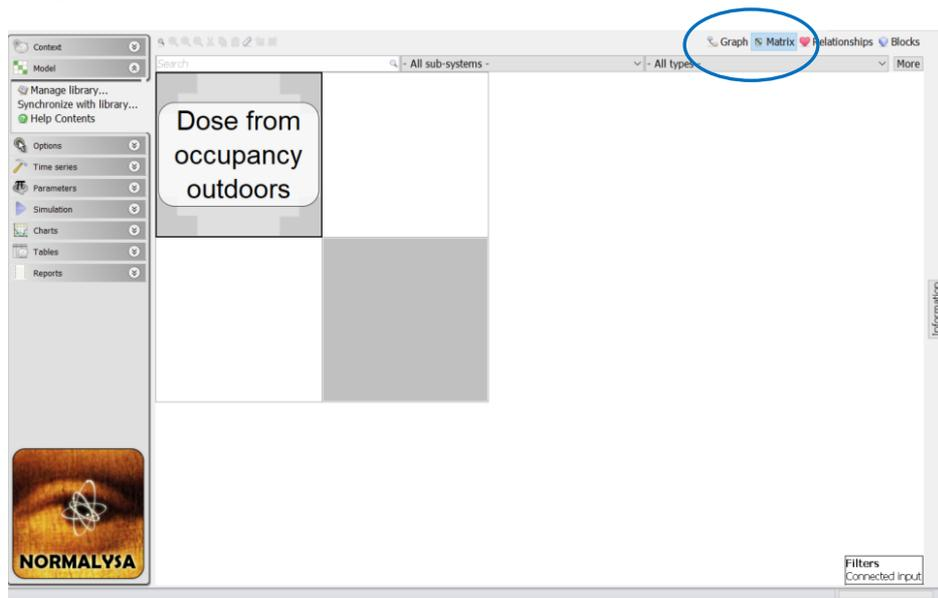
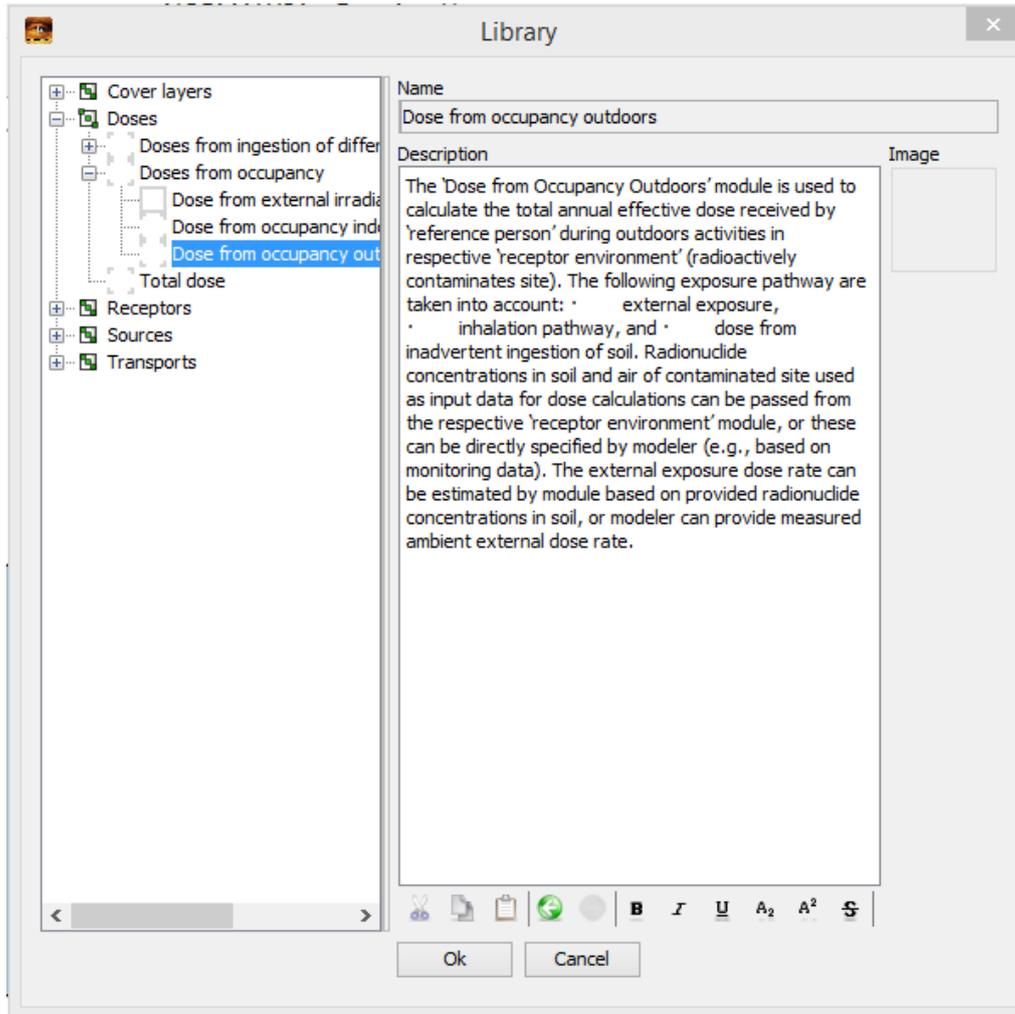

FIG 7. Tabs corresponding to different options ('Graph', 'Matrix') of model visualization.
FIG 9. 'Library' window showing the explanatory text for the 'Dose from occupancy outdoors' module from the 'Doses' library.
Click on the 'Model' button in the menu to open the model window. NORMALYSA provides two means to visualize the model; either as a box diagram (graph) or as an interaction matrix. You can toggle between the two modes at any time by clicking on the tabs in the upper right corner of the 'Model' window (FIG 7).
2. In the list of modules, select the *Dose from occupancy outdoors* module from the *Doses from occupancy* folder inside the *Doses* folder (FIG 7). You can read a short description of the selected model in the *Description* field of *Library* window (FIG 9). You can see that this module calculates doses from outdoor occupancy, and it accounts for dose via inhalation, soil ingestion and external exposure.